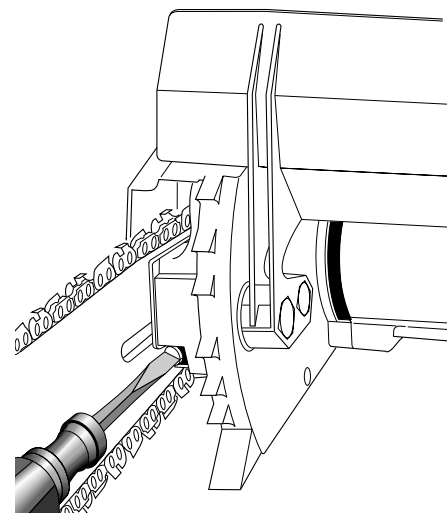

Figure 6 - Turning Adjusting Screw
2. Turn adjusting screw clockwise until all slack is out of chain (see Figure 6).